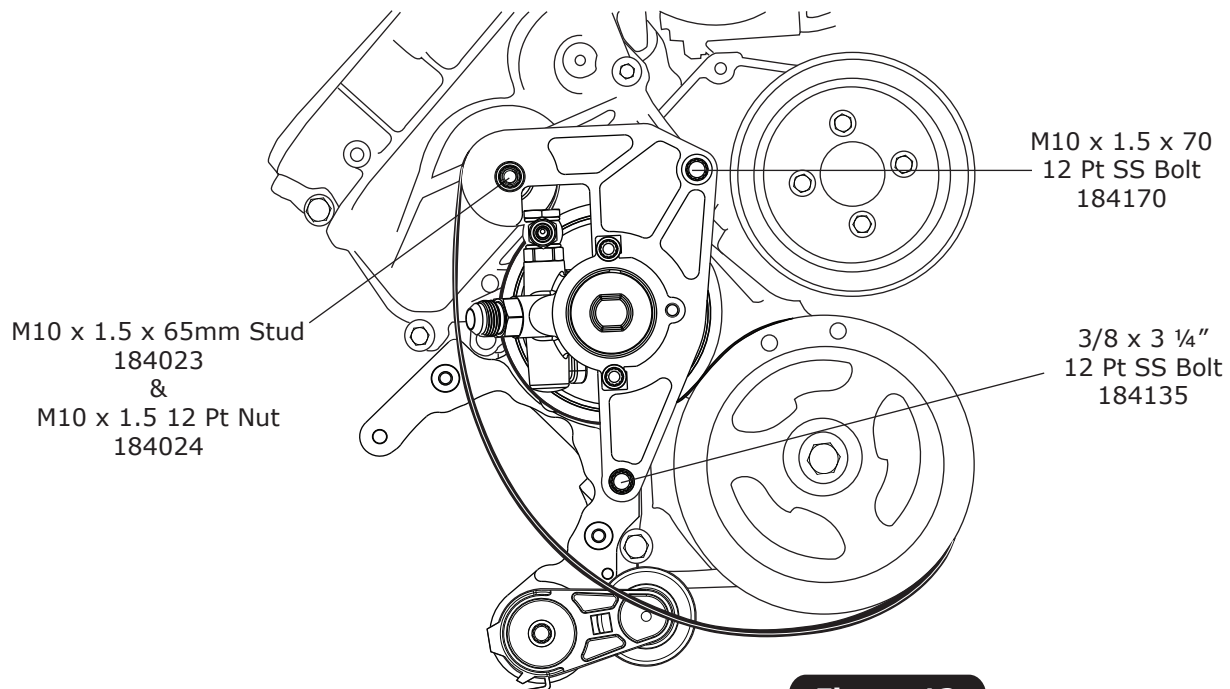

Figure 12
1. Install the power steering pump assembly with belt onto the engine using a M10 x 1.5 x 65mm stud, a M10 x 1.5 12 pt nut, a M10 x 1.5 x 70 12 pt SS bolt, and a 3/8-16 x 3 1/4" 12 pt SS bolt. Torque bolts to 35 ft-lbs (See Figure 12, below).